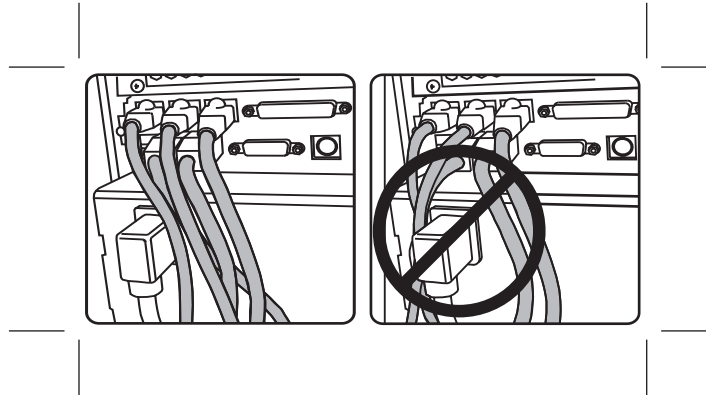

Figure 11. Cable routing label
**Attention:** All cables in the rear should be routed to the right of the AC power cable, when facing the rear of the machine, as shown in Figure 11 on page 13.
1. Connect the cables as shown in as shown in “Rear view and connectors” on page 5. Signal cables must be routed to the right of the AC power cable, as shown in Figure 11.
Attention: The rear cover will not close properly if signal cables are routed to the left of the AC power cable. See Figure 11 for routing.